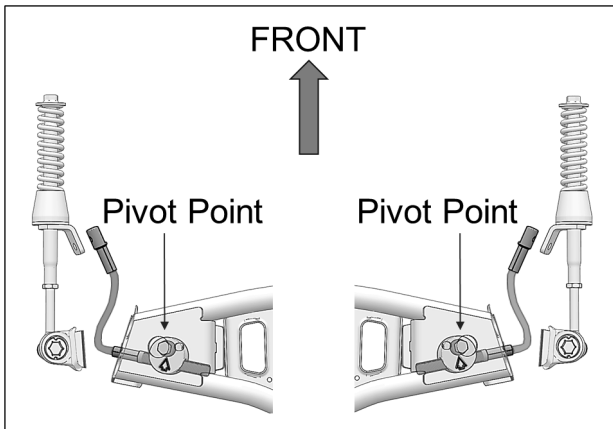

Fig. 23
12. Make sure aluminum disk pivot point is installed in front of steering limiter cable. See Fig. 23